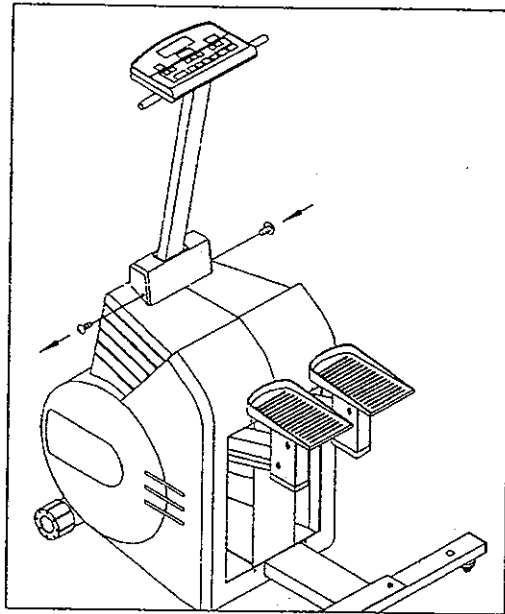

Fig. 7
3. Secure the post shroud with two screws (see Fig. 7).